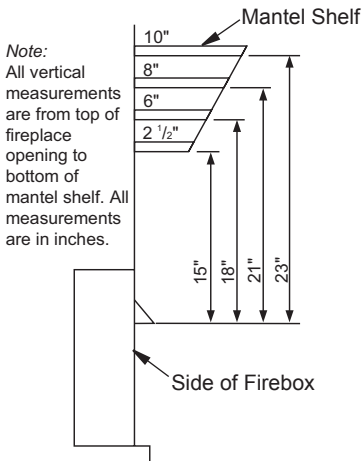

Figure 10 - Minimum Mantel Clearances for Built-In Installation
- C. For mantel clearances, see Figure 10, page 12.
If placing mantel above built-in fireplace, you must meet minimum clearance between mantel shelf and top of fireplace opening (see Figure 10).